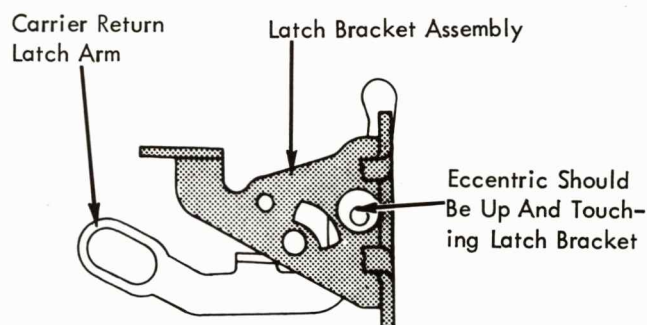

FIGURE 104. Pivot Pin Eccentric
5. Pivot Pin Eccentric (found on early level machines only) The eccentric collar should be adjusted with the high point up so that it just touches the operational latch bracket (Fig. 104). This prevents the pivot pin from bowing during a print escapement operation. The eccentric should also be adjusted laterally on the pivot pin so that the end play of the pivot pin will be .002" to .005".